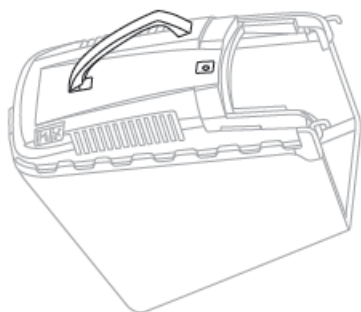
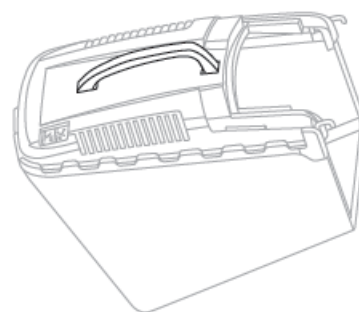
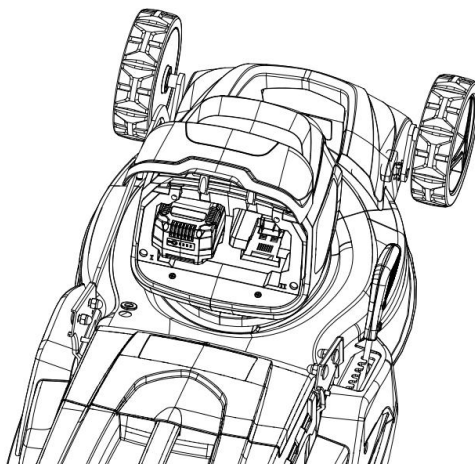

Fig. 3A
Fig.3C
Fig.4B
Insert one end with a projection into the grass catcher, and then fixed another end of the handle onto the grass catcher by tightening the screw inside. (Fig.3A/ Fig.4B/Fig.3C)
2. Insert the battery pack into battery holder. (Fig. 4B)